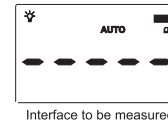

Figure 5
- Plug the power adaptor into the corresponding connector (See Figure 5)
3. LCD indicates the charging progress as in Figure 5
- When LCD screen displays " " during operation, the user should insert the adaptor in a timely manner. See Figure 5 in the Manual.